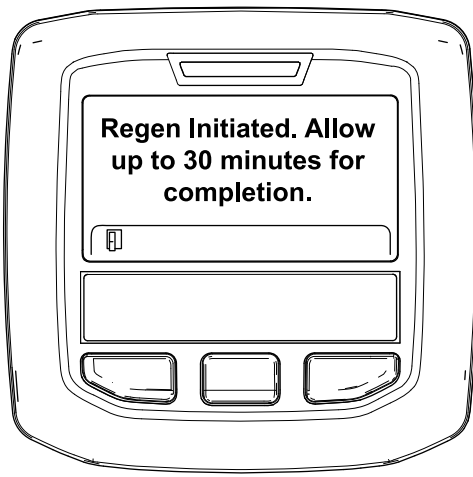

Figure 55
- If the regeneration is allowed, the "Regen Initiated. Allow up to 30 minutes for completion" message displays in the InfoCenter, wait for the machine to complete the parked regeneration process (Figure 55).